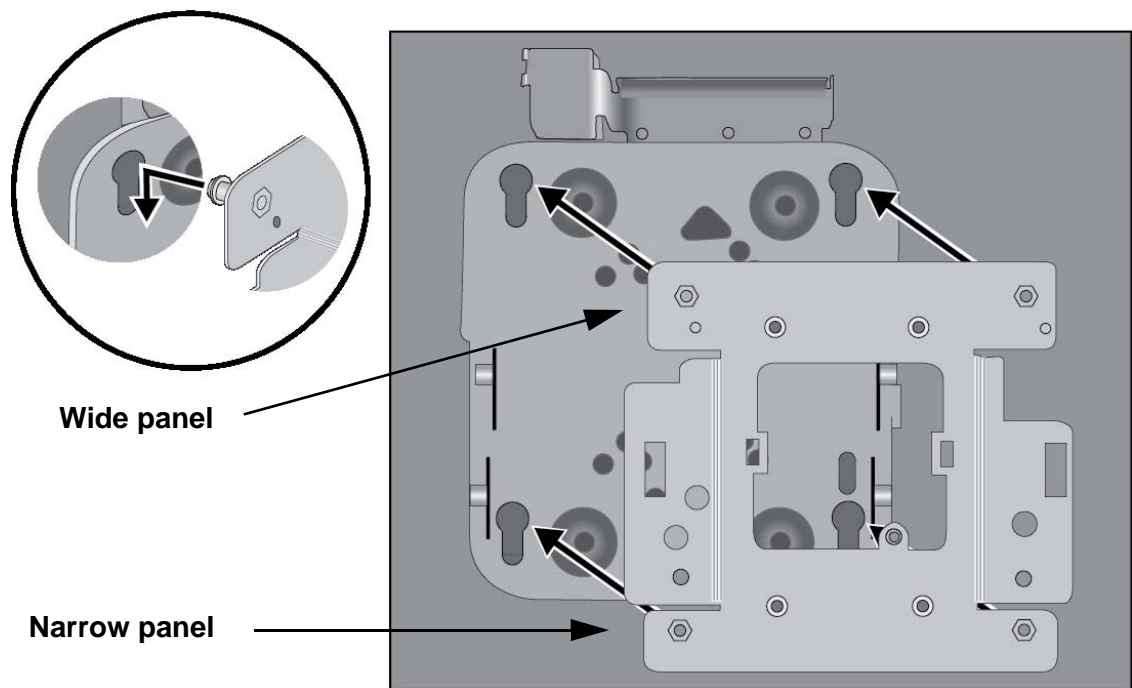

Figure 7. Installing the Base Plate on the Cisco Bracket
1. Insert the four standoffs with the screws and washers on the base plate into the keyholes on the Cisco bracket. The base plate has to be installed as shown in Figure 7. The wide panel has to be at the top of the Cisco bracket and the narrow panel at the bottom.